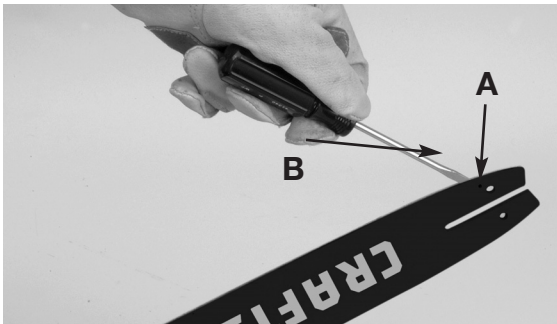

Fig. 38
**BAR GROOVES (B)** Bar grooves (or rails which support and carry the chain) should be cleaned if saw has been used heavily or if saw chain appears dirty. Rails should always be cleaned every time saw chain is removed.(fig. 38)
**OIL PASSAGES (A)** Oil passages on the bar should be cleaned to ensure proper lubrication of the bar and chain during operation. This can be done using a soft wire small enough to insert into the oil discharge hole.(fig. 38)